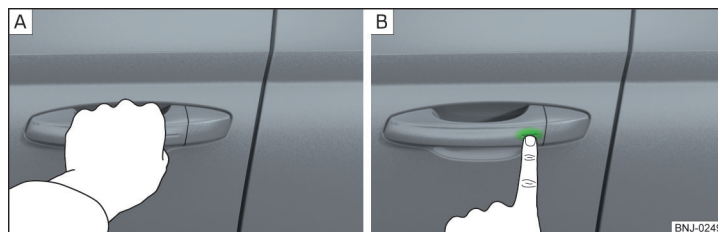

Fig. 44 Vehicle unlocking / vehicle locking
- Grip the door handle to **unlock** the vehicle » Fig. 44 - **A**.
- Touch the sensor on the door handle with your finger to **lock** » Fig. 44 - **B** the vehicle.